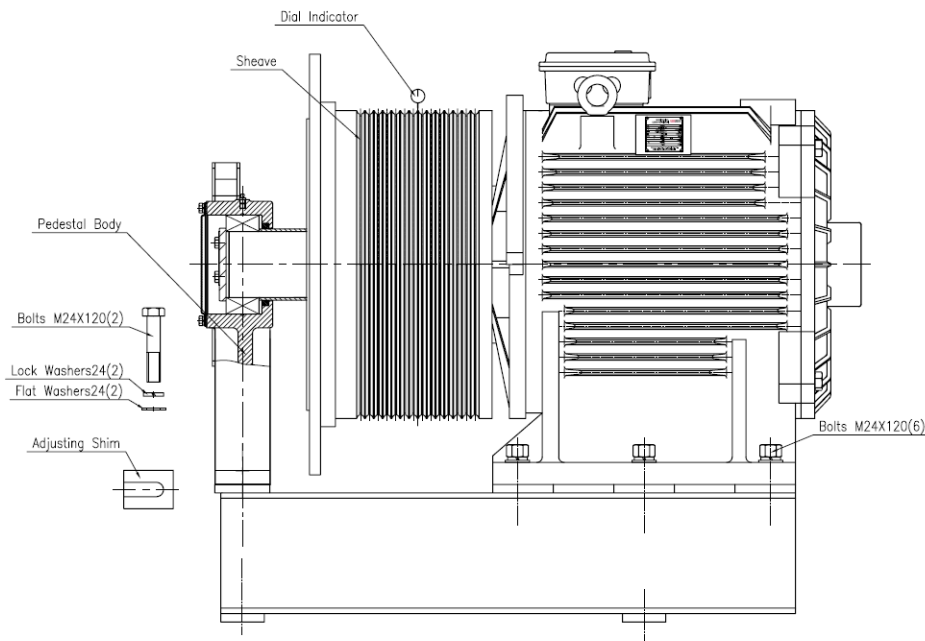

Figure 72: Pedestal Installation and Adjustment
1. Tighten the bolts M24x80 (6). See Figure 72.
2. Place the pedestal body on the same location as that of the removed base, insert, thread the bolts M24x80 (2 pieces) with flat washers24 (2) and lock washers24 (2). Do not tighten these bolts at this time.
1. Cut off the power to the machine. Loosen the bolts M12x35 (4 pieces) and bolts M16x40 (2 pieces) with an open end wrench and take off the guard. See Figures 72 and 73. Remove the ropes.